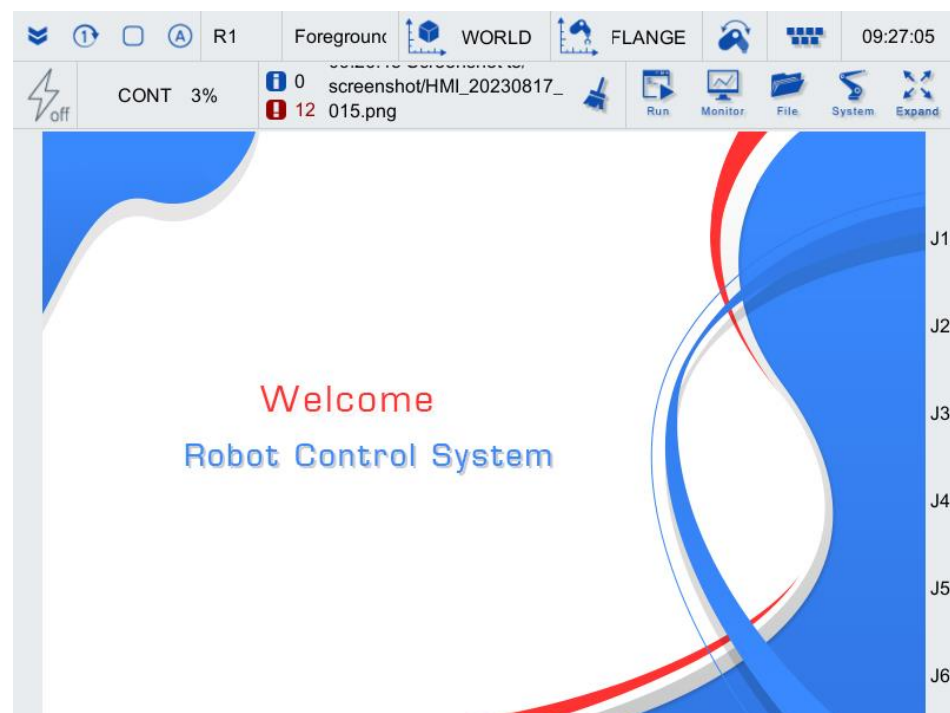

Figure 5-2 Teach pendant main interface
Step1. Log in to the teach pendant and you will see the main interface of the teach pendant as shown in Figure 5-2.